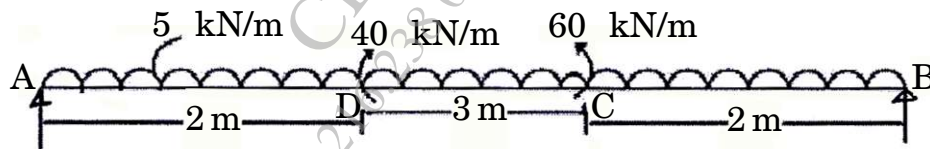

Fig. 5.1
5. (a) Draw SFD and BMD for a simply supported beam as shown in figure 5.1. [7]